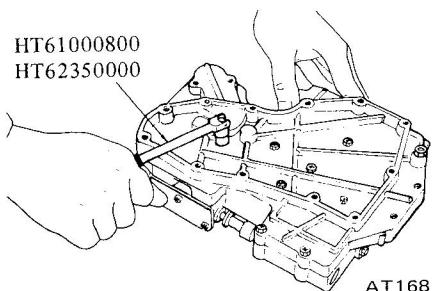

Fig. AT-101 Removing valve body
1. Remove bolts and nuts which retain oil strainer. Bolts may be removed with a screwdriver, but it is recommended to use Hexagon Wrench HT61000800 and Spinner Handle HT62350000. See Figure AT-101.